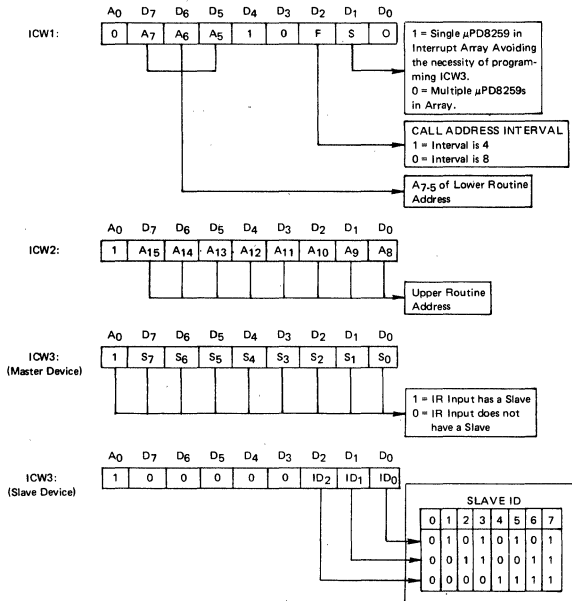

FIGURE 2
Each μPD8259 in the interrupt array must be initialized prior to normal operation. The initialization is performed by a 2 or 3-byte sequence clocked by WR pulses. Figure 1 shows this sequence. (Refer to Figure 2 for bit definitions.)
- Notes: ① Reference Figure 2
When operating in interrupt modes where the priority order of the interrupt inputs is not preserved (e.g., rotating priority mode) the last serviced interrupt level may not be known. In these modes a Specific End-of-Interrupt must be issued to clear the ISR bit at the completion of the interrupt service routine. The SEOI is programmed by setting the appropriate bits in OCW3 (Figure 2) to logic "1"s. Both the EOI and SEOI bits of OCW3 must be set to a logic "1" with L₂, L₁, L₀ forming the binary code of the ISR bit to be reset.